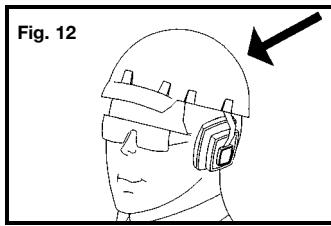

Fig. 12
- Operator and bystanders should wear hard hats** to safeguard against possible injuries. (Fig. 12)